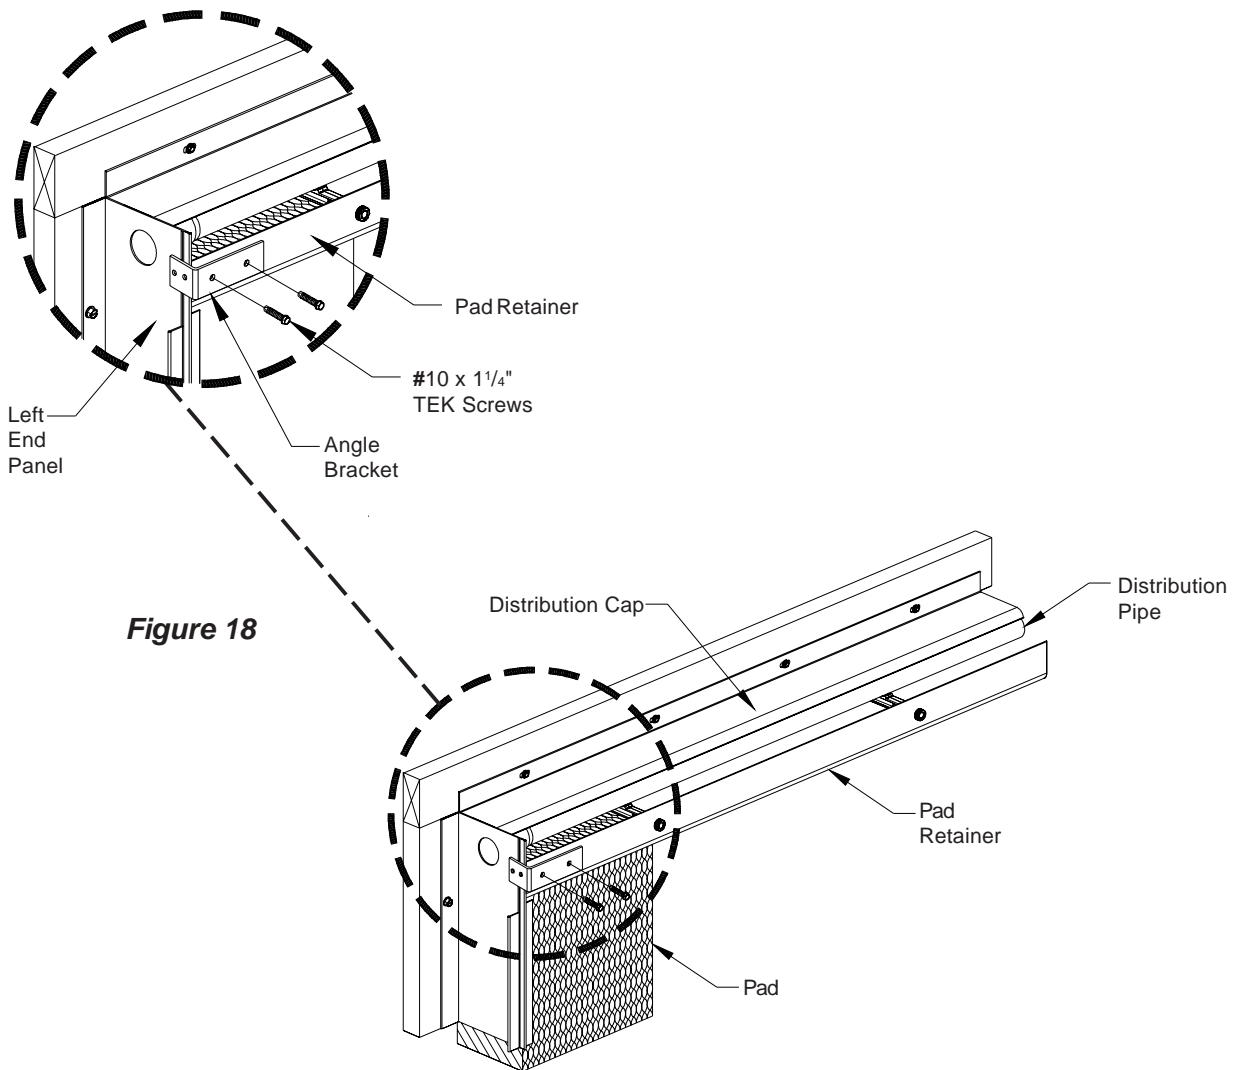

Figure 18
25) Holding the left end panel tight to distribution cap, place the long side of the Angle Bracket on the pad retainer and the short side over end panel. **See Figure 18.** Attach the angle bracket to the pad retainer using (2) #10 x 1/4" TEK screws (provided). Repeat for Right End Panel.